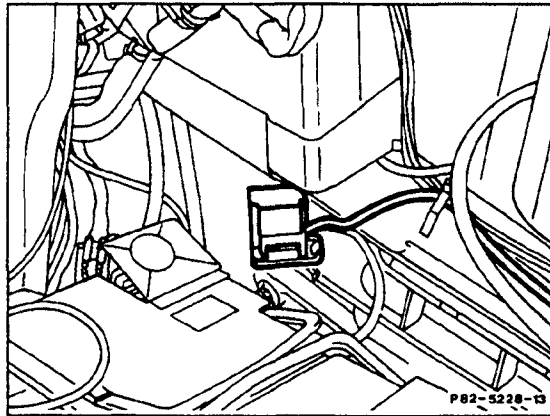

Figure 15
17. Install 8 A fuse in auxiliary fuse box (located in trunk, above battery, Figure 15).